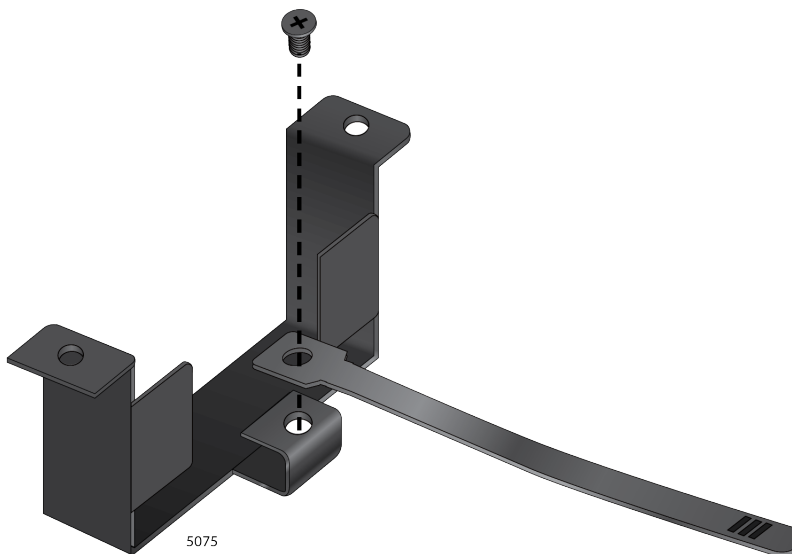

Figure 11. Aligning the Cable Tie to the Bracket
3. To attach the cable tie to the one of the bracket, align the cable tie to the bracket as shown in Figure 11.